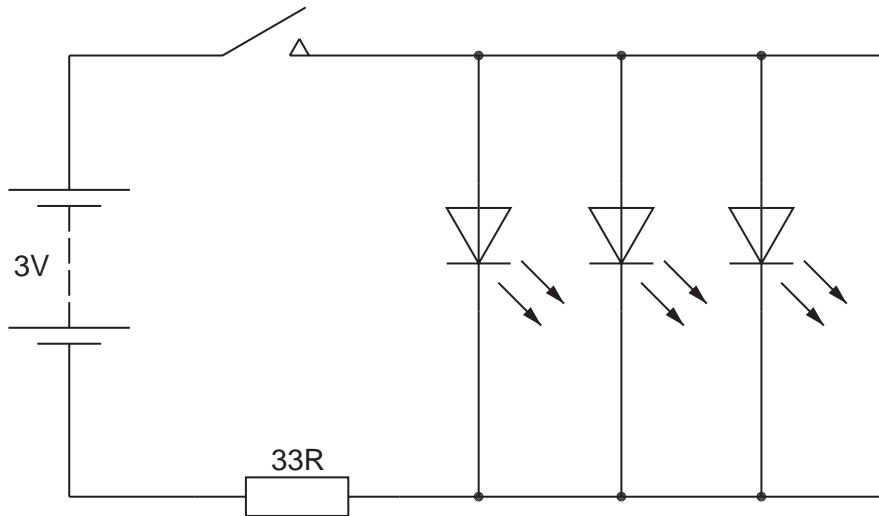

Fig. 17
- (e) The novelty siren is powered by 2 × 1.5V (AA) batteries. The circuit for the three LEDs is shown in Fig. 17.